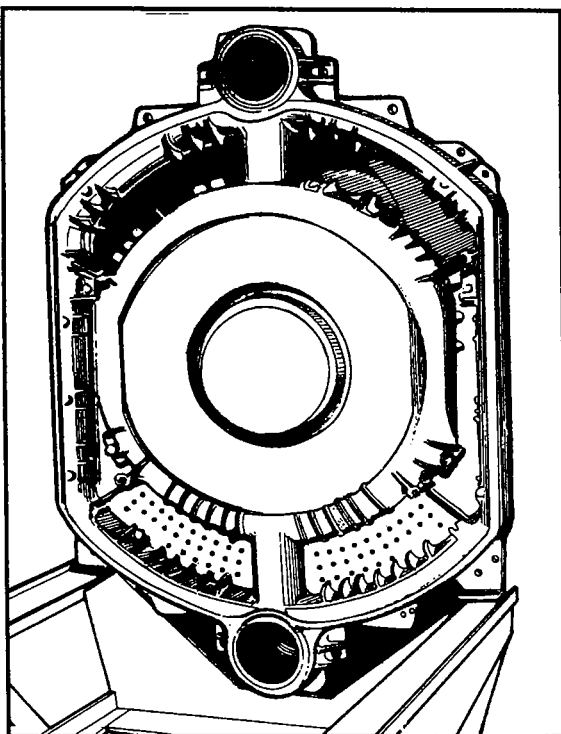

Figure 10.3 – Rear Section and Cradle
In order to assemble the boiler sections, it is necessary to have TWO special tools (contact Hamworthy) or a suitable set of pulling up tools, a soft faced mallet and appropriate spanners. Assemble the sections as follows, referring to Figures 10.3 – 10.8. & Figure 15.1.
- a. Position rear section (3) onto end of cradle (25) (Fig.10.3) ensuring that it is safely supported. Sections can be lifted by utilising suitably tested and protected straps through the ports or flueways.